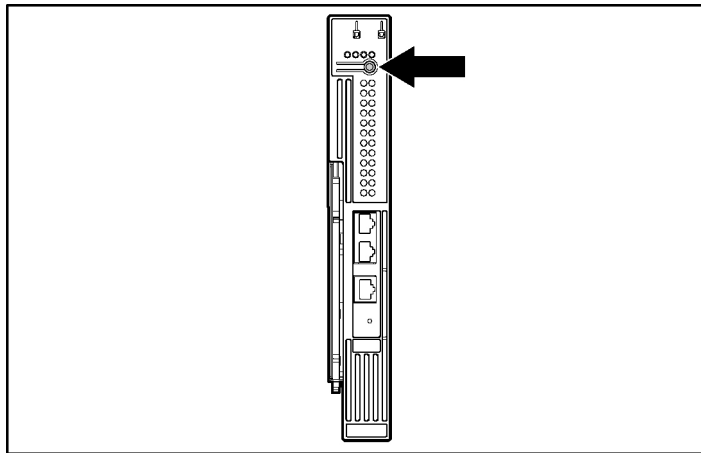

Figure E-3: Starting Express Setup
4. Press and hold the **Mode** button for 3 seconds. When all of the LEDs next to the **Mode** button turn green, release the button. See Figure E-3.